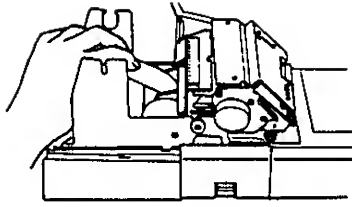

Fig. 8
4. Place the paper roll in the inner-side roll holder of the two holders. (Fig. 8)